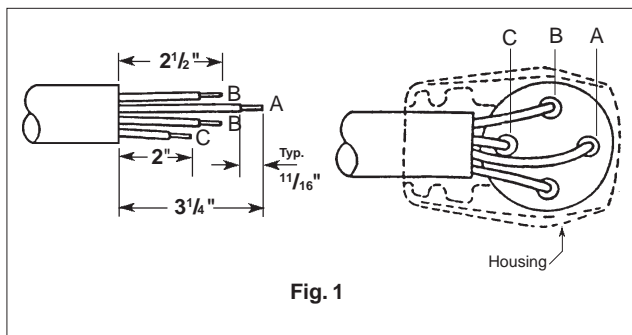

Fig. 1
- Strip cord jacket and each conductor as shown in Fig. 1. Note that the blade pattern can be positioned in any of 4 directions by rotating the contact assembly in the housing. This will determine the length of each color wire. Twist wire strands on each conductor. **DO NOT TIN CONDUCTORS.**